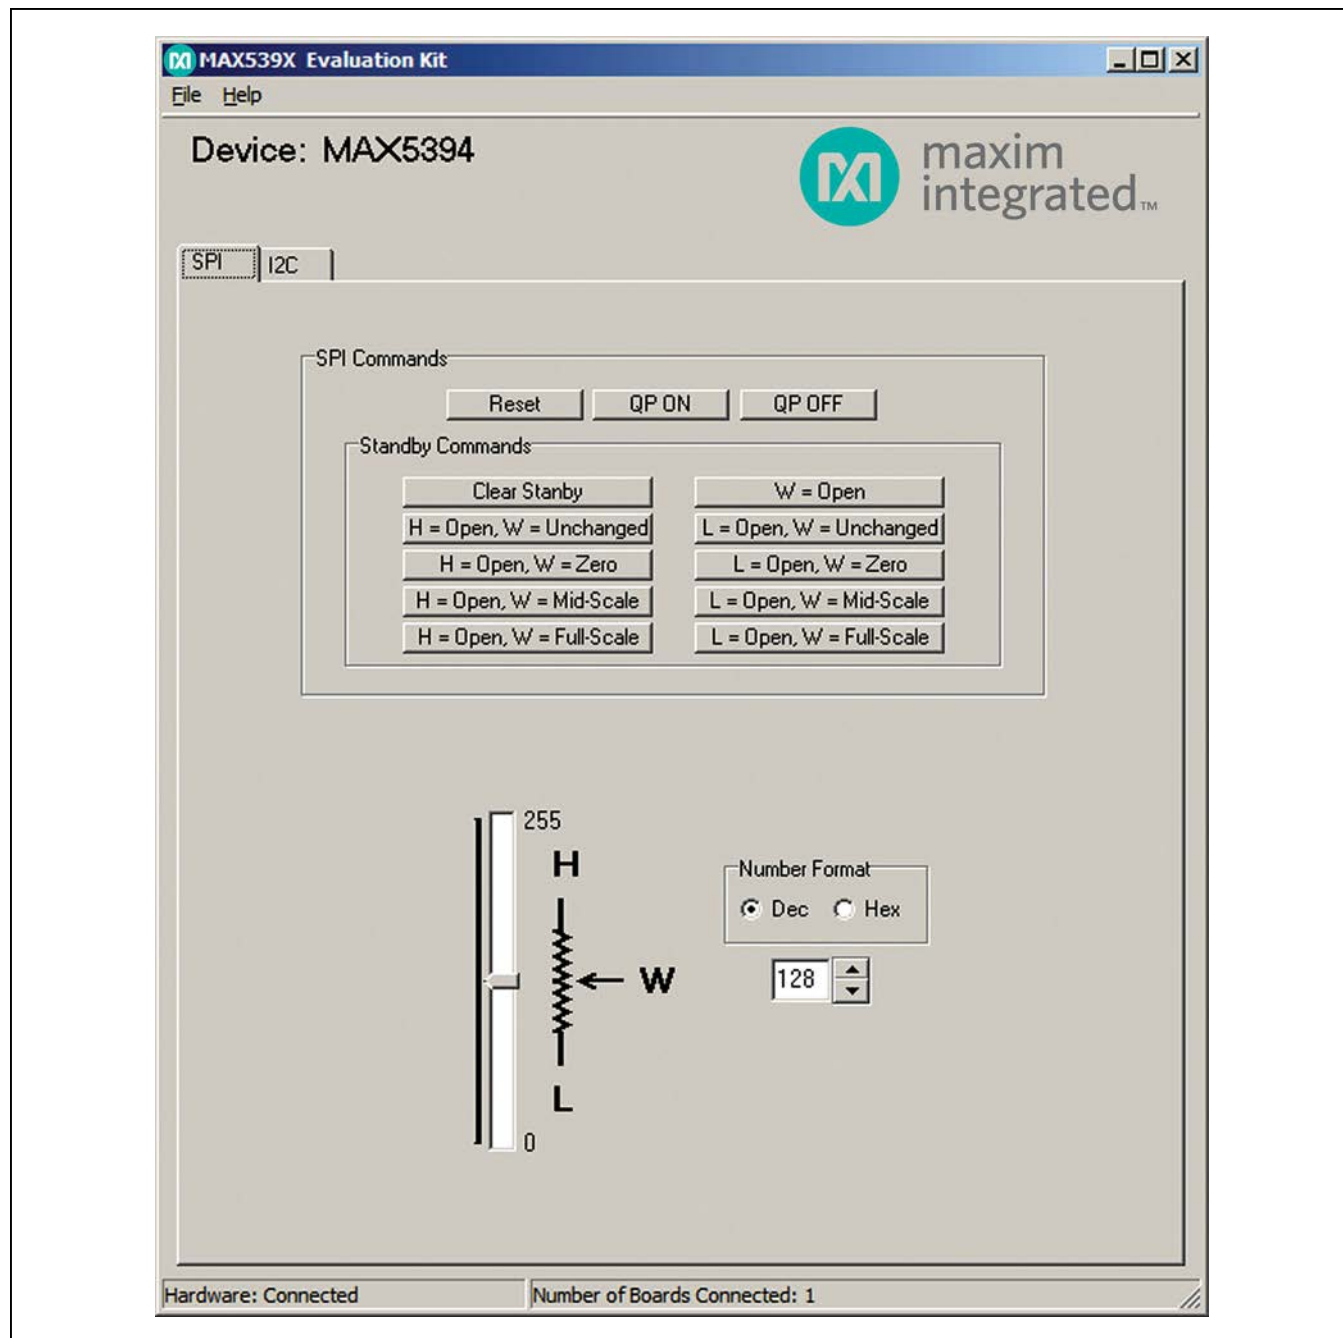

Figure 1. MAX5394M EV Kit Software Main Window
- 6) Start the EV kit software by opening its icon in the **Start | Programs** menu. The EV kit software main window appears, as shown in Figure 1.